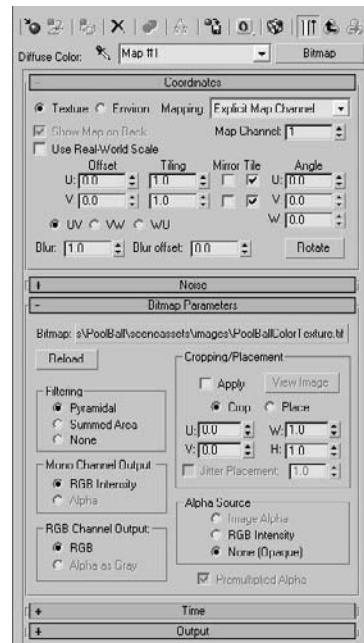

Figure 7.40
- The Material Editor has changed, and you are now in a separate module from the Material parameters. You are in the Bitmap parameter. There are several rollouts that we are going to ignore for now. The most important rollouts in the Bitmap section are Bitmap Parameter and Coordinates. The Bitmap Parameter rollout deals with the actual bitmap image; the Coordinate rollout controls how the bitmap image moves relative to the surface of the object. Leave all the settings at their defaults. See Figure 7.40